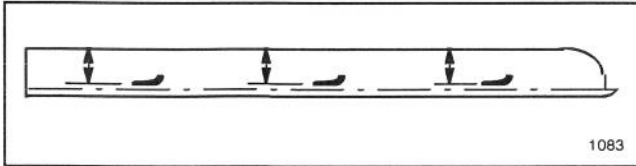

Figure 10
2. Rotate blade(s) until the ends face forward and backward. Measure from inside of cutting unit to cutting edge at front of blade (Fig. 10), and remember this dimension.